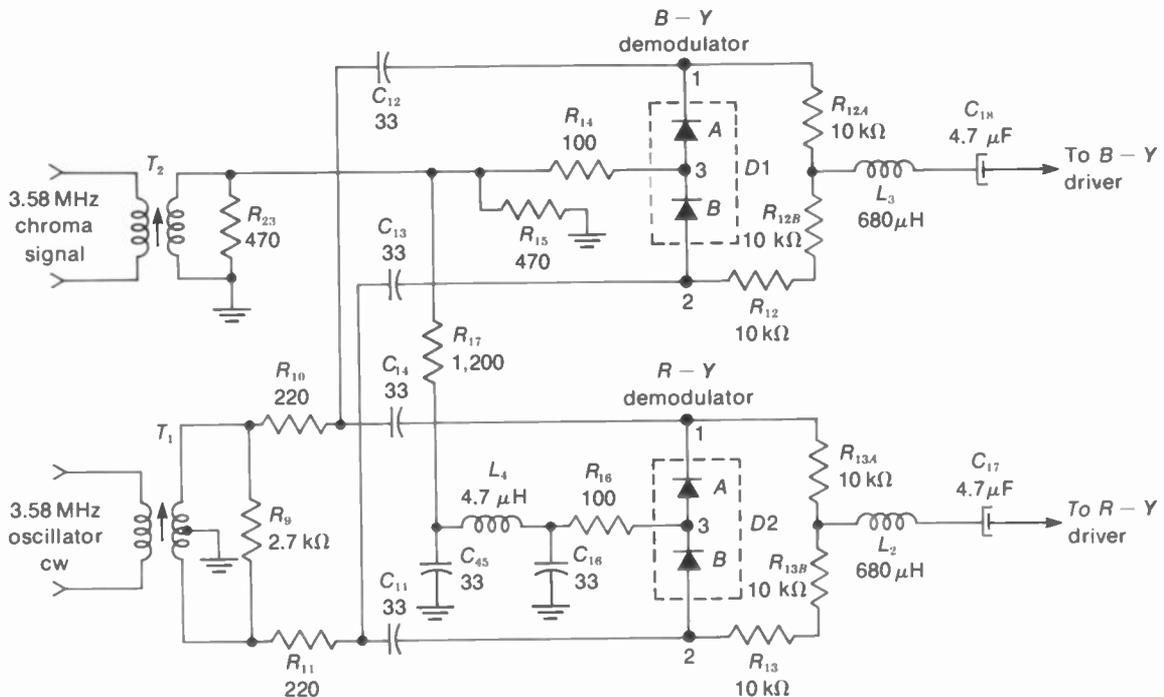

FIGURE 17-22 DIODE DEMODULATOR CIRCUITS. R IN OHMS AND C IN PICOFARADS. (FROM MAGNAVOX CHASSIS T979)
**Diode demodulators.** In Fig. 17-22 two dual-diode units D1 and D2 are used for B-Y and R-Y demodulators. In each unit, the diodes are series-aiding, with the anode connected internally to the cathode. Externally, the three terminals include a cathode at 1, the opposite